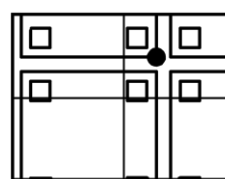

Fig 3
- ⑦ Loosen the aligning screw (2) to be able to move the black circle toward the center. (See Fig.3.)
- ⑧ Select the aligning screw that can approach the black circle to the center by tightening the screw, and then adjust it.
- ⑨ Select the aligning screw that can approach the black circle to the center by loosening the screw, and then adjust it.
- ⑩ Repeat steps ⑧ and ⑨ to gradually approach the black circle to the center. Finally tighten the aligning screws to correctly align the black circle with the center.
- ⑪ After performing the aligning process, confirm that 3 aligning screws for each objective are tightened securely.